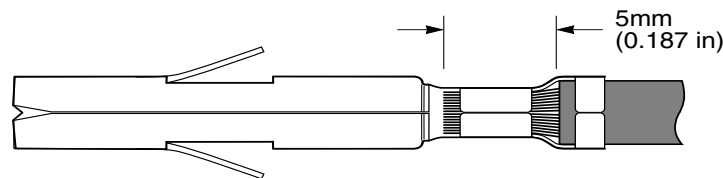

Figure C2-7. View of crimped connector pin
- b. Crimp the terminal pins to the wires according to standard procedures. Figure C2-7 shows a crimped connector pin. The connector pins can accept a wire size up to 1.2 mm (0.05 in). If possible, use a crimping tool such as Molex Hand Crimping Tool 11-01-0084.